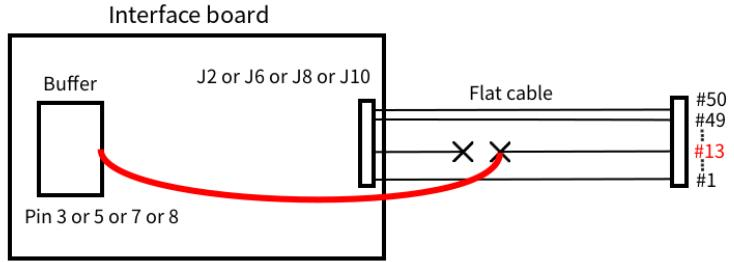

Figure 1.16: How to connect the #13 wire to the buffer.
7. Pins 3,5,7,8 of the buffer chip represent the output of the buffer. Connect each pin to the wire number 13 of the flat cables coming off J2, J6, J8 and J10. The order is not relevant. Of course, in the case of the SideMRD, only one connection is needed (for example J2). Refer to Figure 1.16 for a visual explanation.
8. Connect wire number 50 of the flat cable (it is white in our case) to any ground pin on the interface board. You have to connect the “ASU end” of the wire to ground in a similar way as shown in Figure 1.16 for the case of cable 13.
9. Connect wire number 49 of the flat cable (it is blue in our case) to the DVD pin on the interface board. The DVD pin is located near the M9 chip that you just desoldered. You have to connect the “ASU end” of the wire to the DVD pin in a similar way as shown in Figure 1.16 for the case of cable 13.